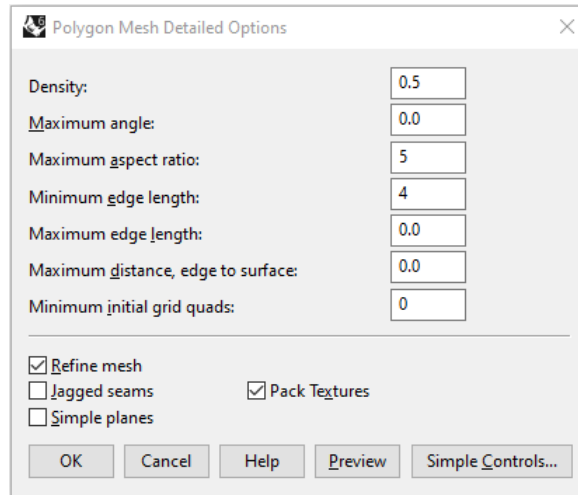

Figure 14: Rhino meshing dialog to create an initial mesh.
14. Select all objects and type the command **\_Mesh**. If a simplified dialog appears, click on the *Detailed Controls...* button and enter the values as shown in Figure 14.